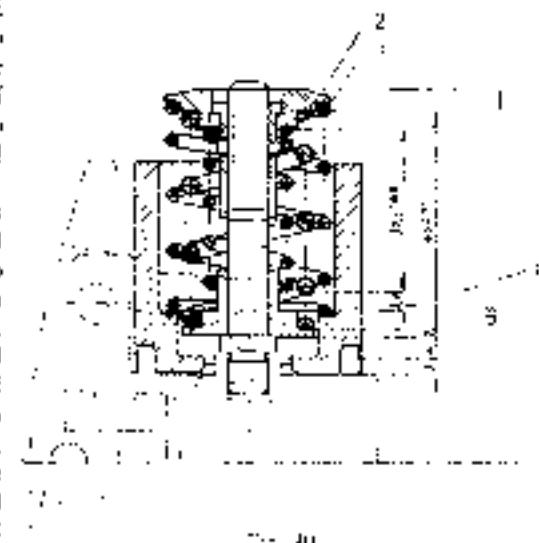

Fig. 40
Push to the bottom the weight screws on the shaft of the aster 4 staff adjusting screws and tighten the nut securing the top casting cover so that it is flush with the top face of the cover. If the adjustment of the speed governor is correct, only the outer spring (1) should be slightly bent approximately to a point of 0.2 mm (4 kg/cm² up to 88 lbf/in), while the centre spring (2) remains unloaded, having a clearance of 0.1 mm to 0.3 mm or 0.04 in to 0.02 in, the inner one (3) leaving a clearance of 1.6 to 1.7 mm or 1/16 in to 1/8 in (Fig. 40). The correct clearance of the springs is essential for correct operation of the governor with regard to output, i.e. the governor must start the adjustment of the fuel injection pump to the varying load within the specified speed limits (see Fig. 40).